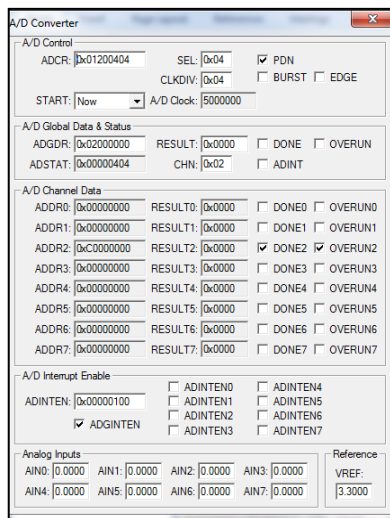

Fig. 15: A/D Converter Window
1. To open the AD Converter window, in the main menu select Peripherals >> A/D Converter. A window will appear like that of Fig. 15.